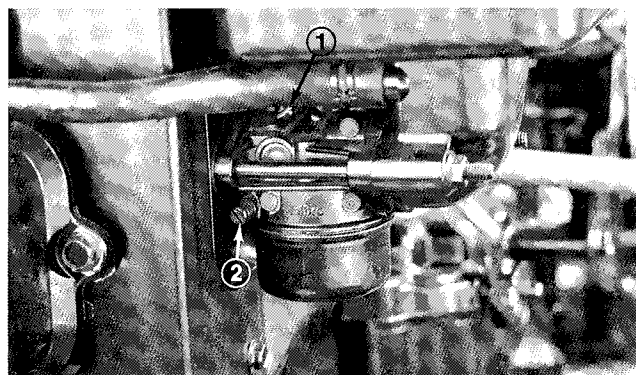

Figure 20
1. Idle Fuel Screw (Fig. 20) — Close screw by gently rotating it clockwise.
2. Rotate — open — the screw 1 turn counterclockwise (Fig. 20).
4. Idle Speed Screw (Fig. 20) — Set the idle speed to 1200 rpm $\pm$ 75 RPM by turning the idle speed screw in or out. Check speed with a tachometer.
5. Idle Fuel Screw (Fig. 20) — With throttle in slow position, turn screw out (counterclockwise) until the engine speed decreases (rich). Note position of the screw.